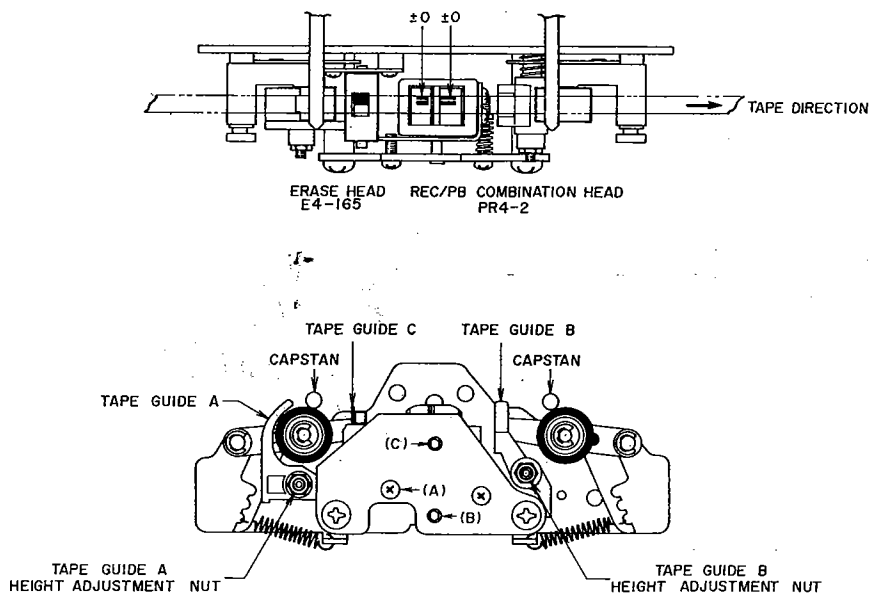
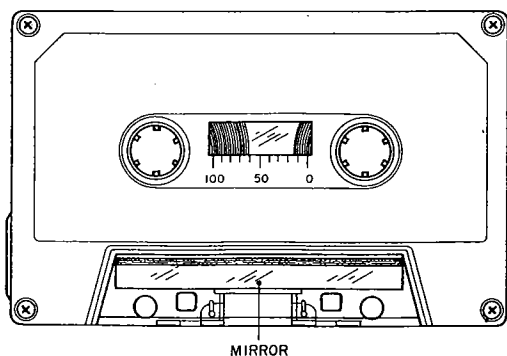

Fig. 14
Fig. 15
(Refer to Fig. 14 and Fig. 15)
- 1) When using an ordinary cassette, the tape guides and heads, etc. are not visible. As shown in Fig. 15, use a cassette tape from which part of the cassette case has been cut out and a mirror installed for easy visibility of the head area when making tape guide height adjustment.
- 2) At playback mode, using the erase head guide C shown in Fig. 14 as standard for height, adjust tape guide A and tape guide B height with tape guide height adjustment nuts so that the tape runs smoothly and does not catch on the tape guides.
(Refer to Fig. 14)
- 2) As shown in Fig. 14, adjust head height with screws (A), (B), and (C) until the upper edge of the tape is the same height as the upper edge of the left channel REC/PB Comb. head core.
3. AZIMUTH ALIGNMENT ADJUSTMENT OF RECORDING/PLAYBACK COMBINATION HEAD (Refer to Fig. 14)
COMBINATION HEAD (Refer to Fig. 14)
- 1) Playback a 10 kHz pre-recorded cassette azimuth alignment test tape and adjust screw (A) shown in Fig. 14 to obtain maximum output on both channels.
- 4) Set Monitor Switch to "TAPE" position and adjust screw (A) shown in Fig. 14 to obtain maximum output on both left and right channels.
4. When a mirror installed cassette test tape as shown in Fig. 15 is required, it can be ordered from AKAI Electric Co.